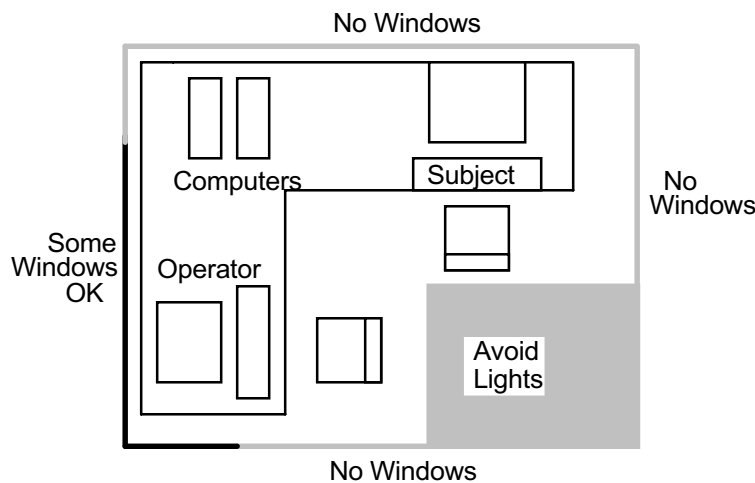

Figure 1: Suggested EyeLink System Layout
- Set up the operator and subject monitors and PCs on tables arranged in an 'L' shape, as in Figure 1. This configuration allows the experimenter to set up the headband and the subject's left eye camera, while having access to both computer keyboards and monitors.
- Avoid windows or other bright light sources that could cause reflections on the operator and subject monitors. Windows or incandescent lights on the walls behind or near the subject monitor may interfere with the head-tracking camera. The grey walls in Figure 1 are locations where bright light sources will cause reflections.